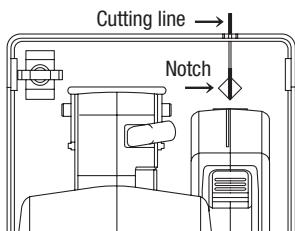

Fig. 4. Alignment with Cutting Line
- Line up the sight line on the shoe with your cutting line (Fig. 4).